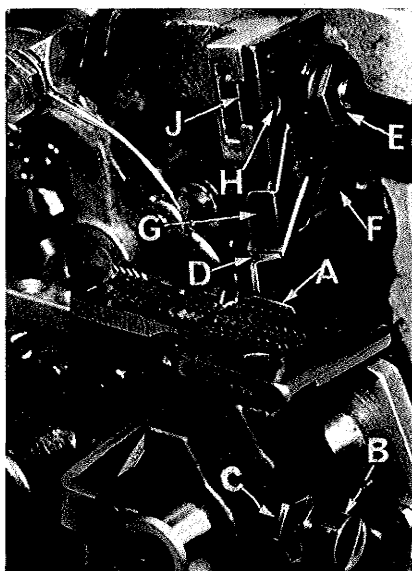

Fig. 14
Replace lower knife holder assembly. Lower knife (A, Fig. 14) should be set with cutting edge flush with throat plate surface. Adjustments are made with hexagonal head screw which holds lower knife. Lower knife is spring pressed against upper knife, so no lateral adjustment is necessary when width of trim is changed.
Replace upper knife assembly. Clamp upper knife (D, Fig. 14) in position, setting nut (E) to hold clamp (F) in its most clockwise position against upper knife. Upper knife chain guard (G) should be positioned so that the guarding section is approximately 1/64 inch (.40 mm) behind the cutting edge and in contact with the top surface of the upper knife.